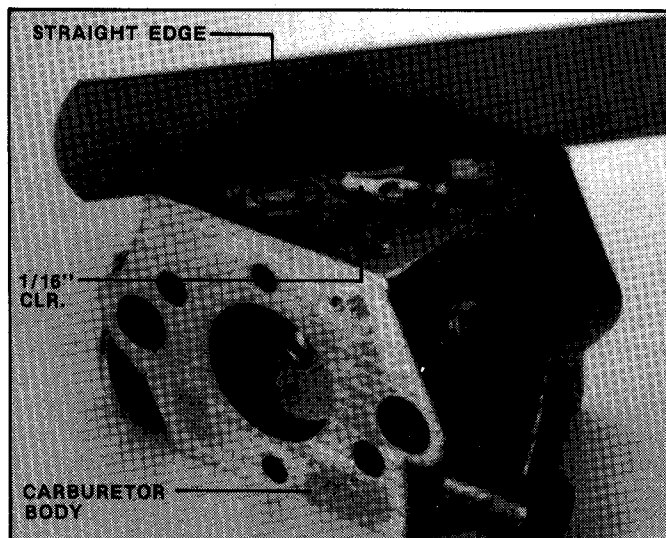

FIGURE 2.5
D. Note for re-assembly of the needle valve and lever group, the lever end should be adjusted to 1/16" below the level of the outside surface of the carburetor body. See Figure 2.5.